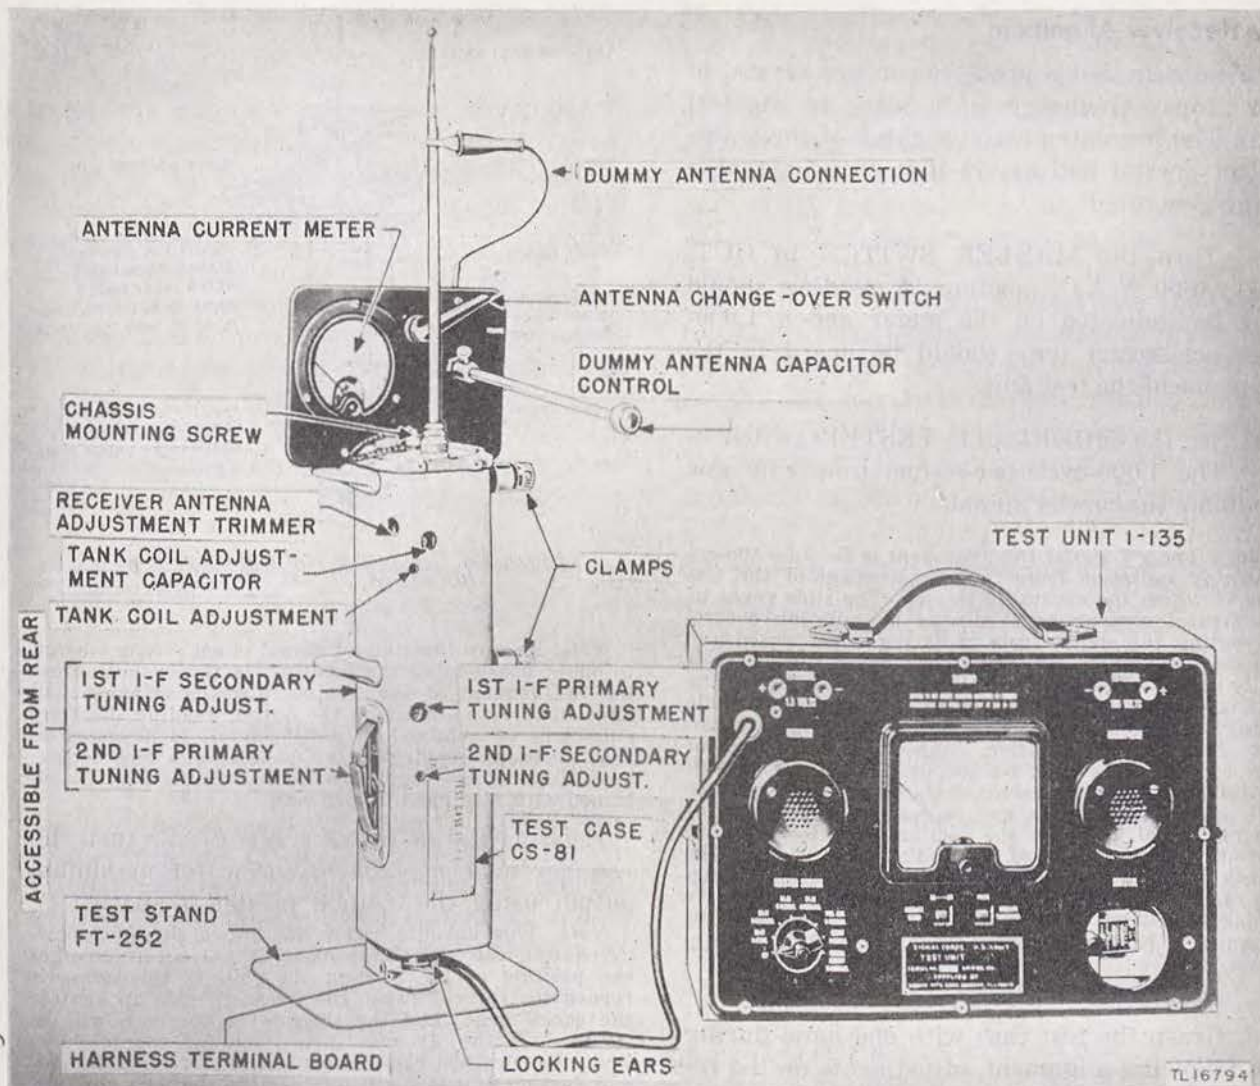

Figure 33. Test Equipment IE-17-(\*). Set-up with Radio Set SCR-536-F.
a. Place the chassis into Test Case CS-81-(\* ) housing. (In Radio Set SCR-536-F the changed location of the receiver tank adjustment, and the change in i-f transformers require that new holes be drilled in Test Case CS-81-(\*). (See figs. 33, 34, and 35.) The chassis must be inserted into the test case through the bottom as is done when inserting the chassis into its own housing. Take care that the chassis fits between the guides provided for it in the case. It should not be necessary to force the chassis. If force is necessary, withdraw the chassis and check to see that no parts are catching on the test case or that the chassis has not jumped the guides. Slip the top cover over the antenna rod and fasten the chassis to it with the knurled mounting screw. Remove the plate current meter jumper from the terminal board at the bottom end of the chassis.